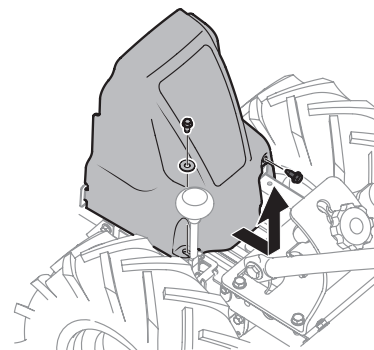

Figure 21
- Remove the hex washer screw (1/4-20 x .500) and flat washer (.28 x .74 x .063) from the left side of the belt cover and the hex washer screw (1/4-20 x .500) from the right side of the belt cover. Remove the belt cover. See Figure 21.